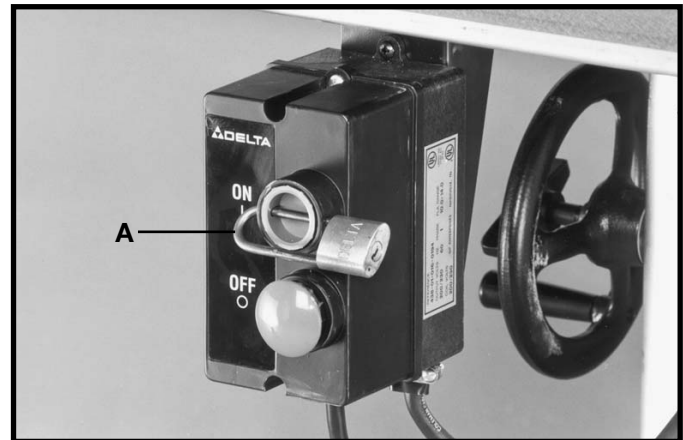

Fig. 115
IMPORTANT: When the saw is not in use the switch should be locked in the OFF position using a padlock (A) Fig. 115, with a 3/16" diameter shackle to prevent unauthorized use of the saw.